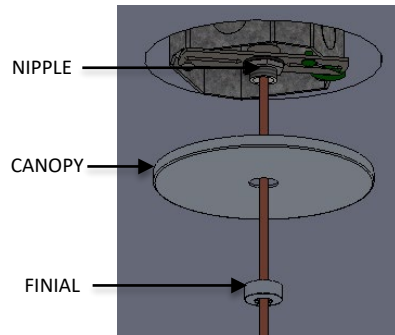

FIG. 23- FINIAL ASSEMBLY
8. Raise CANOPY and secure to ceiling by threading the FINIAL to the NIPPLE (available in MOUNTING BRACKET ASSEMBLY) as shown below in FIG. 23.